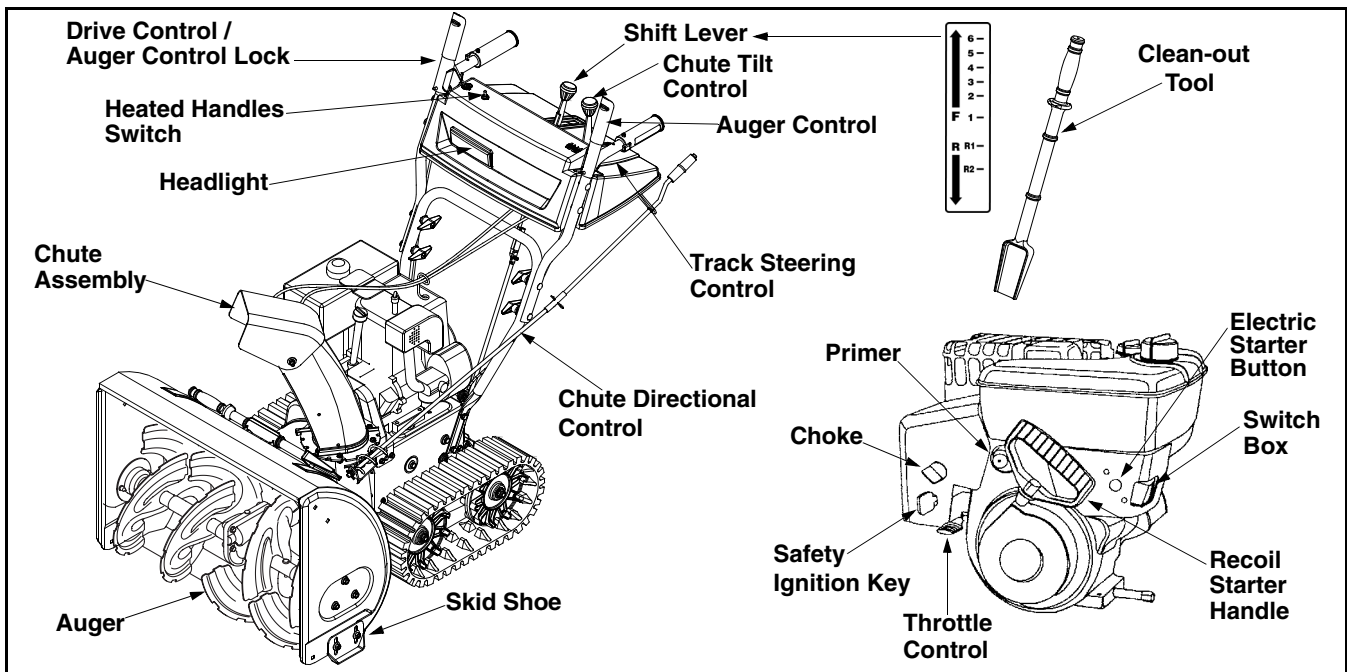

Figure 5
The drive control is located on the right handle. Squeeze the drive control to engage the wheel drive. Release to stop. See Figure 5.
The auger control is located on the left handle. Squeeze the auger control to engage the augers. Release to stop the snow throwing action. (Drive control must also be released.) See Figure 5.
The distance snow is thrown can be changed by adjusting the angle of the upper chute. Move the chute tilt control forward to decrease the distance, and backwards to increase distance. See Figure 5.
The shift lever is located in the center of the handle panel and is used to determine both ground speed and direction of travel. It can be moved into any of eight positions. See Figure 5.
The chute directional control is located on left side of the snow thrower. See Figure 5.
This switch is located on the right side of the snow thrower dash panel. To activate the heated handles, toggle the switch to the right to generate heat within the handle grips. Toggle the switch to the left to the OFF position after using the snow thrower. See Figure 5.
The left and right track steering controls are located on the underside of the handles and they are used to assist in steering the snow thrower. Squeeze the right track control when turning right, squeeze the left control when turning left. Operate your snow thrower in open areas until you become familiar with these controls. See Figure 5.
The throttle control is located on the engine. It regulates the speed of the engine and will shut off the engine when pushed down completely. See Figure 5.
The safety ignition key must be fully inserted and snapped in place before the unit will start. Remove the ignition key to prevent unauthorized use of equipment. See Figure 5.
- Move throttle control up to FAST position. Insert ignition key into slot and snap in place. See Figure 5. **Do not turn key.**